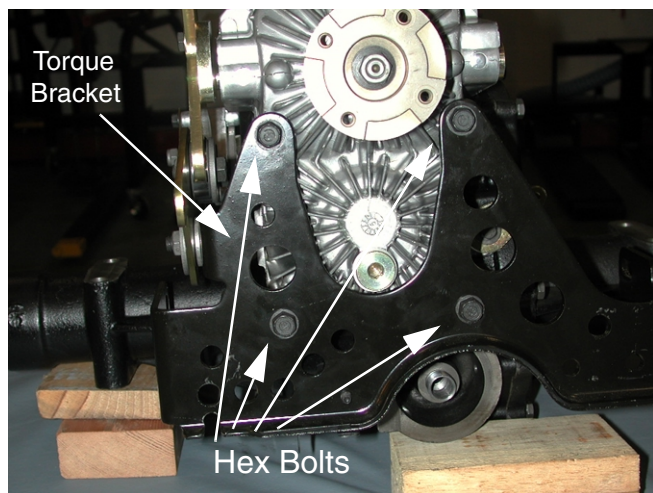

Figure 10
13. Remove all four 5/8" hex bolts securing the torque bracket, hydrostatic pump and long spacers to the transmission housing using a 1/2" socket. See Figure 10.